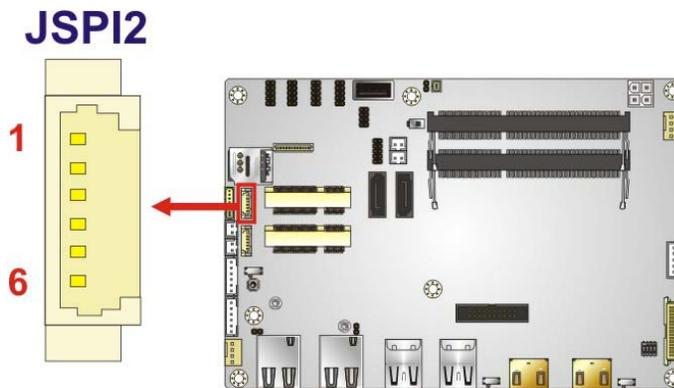

Figure 4-26: SPI Flash Connector Location
- CN Location: See **Figure 4-26**